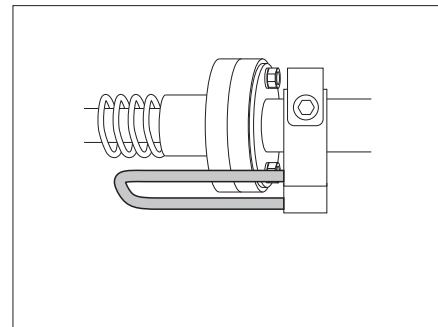

Fig. 147 Locking lever in the secured position
- ▶ Before using the bed check whether the locking lever is located in the secured position (Fig. 147).
- Set the locking lever to the secured position (Fig. 147).